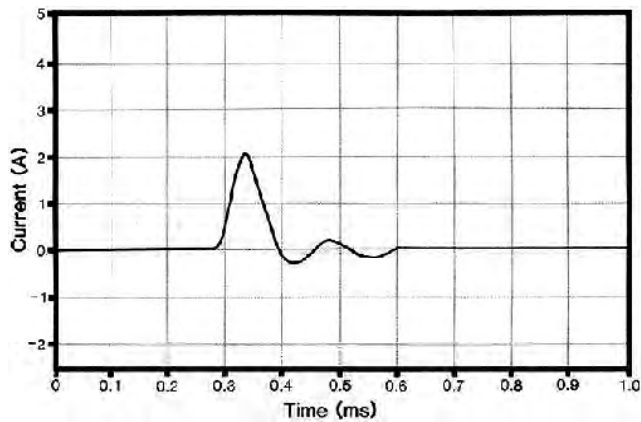

FIGURE 34. Dry Condition Current Output.
**Shock Intensity:** Current output for dry and wet conditions are shown in FIGURES 34 and 35.